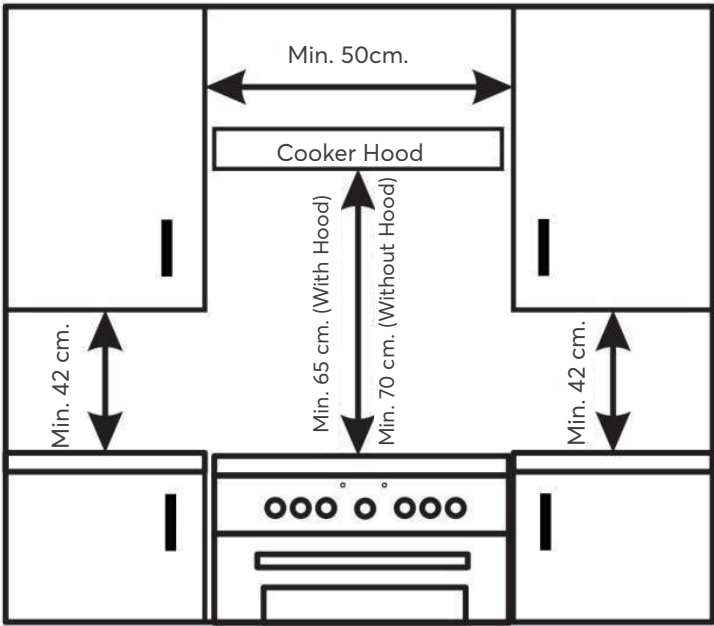

Figure 1
4. Place the wall cabinets adjacent to the hood at a minimum height of 42 cm from the hobs as indicated in figure 1.
5. Should the cooker be installed beneath a wall cabinet, the latter should be situated at least 70 cm away from the hobs as indicated in figure 1.
6. Cut-out for the cooker cabinet should have the dimensions indicated in the figure 1.